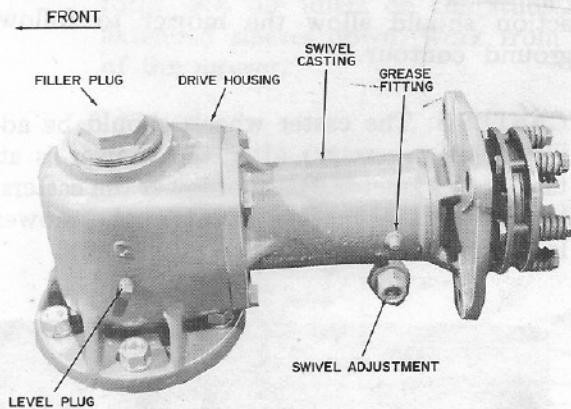

fig 6
3. Remove filler plug and level plug, fig 6. Fill the gear drive housing to the oil level plug with SAE 90 gear lubricant. Replace the plugs. Check the level periodically especially if signs of leakage are present.
4. Grease the swivel casting through the grease fitting on the casting with general purpose grease. Add grease until it comes out under the swivel adjustment fig 6. Regrease every 8 HOURS of operation.
2. **CASTERS**: The caster wheels should be adjusted (if necessary) after the mower is attached to a tractor. Raise or lower the casters, by use of the spacers, to make the mower level with the ground, fig 6, Item 46.